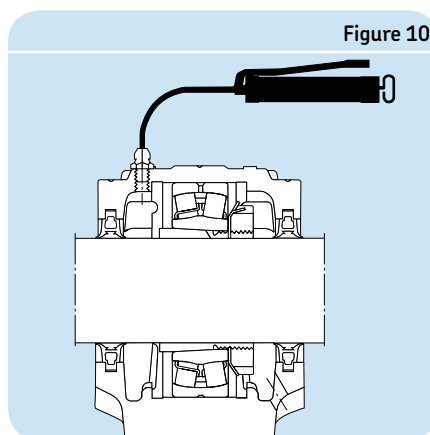
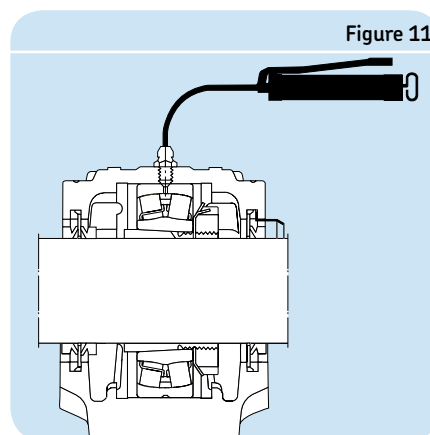

Figure 10
Figure 11
- 40% when grease is added from the side of the bearing (**Figure 10**),
- 20% when grease is added through the annular groove and lubrication holes in the bearing outer or inner ring (**Figure 11**).
If contact seals are used in the bearing arrangement, attention should be given to the direction of the contact lip. If the lip is facing the bearing, then purging is unlikely and an exit hole in the housing should also be provided (**Figure 10**) so that excessive amounts of grease will not build up in the space surrounding the bearing. An excessive build-up of grease can result in a permanent increase in bearing temperature. The exit hole should be plugged if high-pressure water is used for cleaning.
To be sure that fresh grease actually reaches the bearing and replaces the old grease, the lubrication duct in the housing should either feed the grease adjacent to the outer ring side face (**Figure 10** and **Figure 12**) or, better still, into the bearing. To facilitate efficient lubrication of some bearing types, e.g. spherical roller bearings, are provided with an annular groove and/or lubrication holes in the outer or inner ring (**Figure 11** and **Figure 13**).